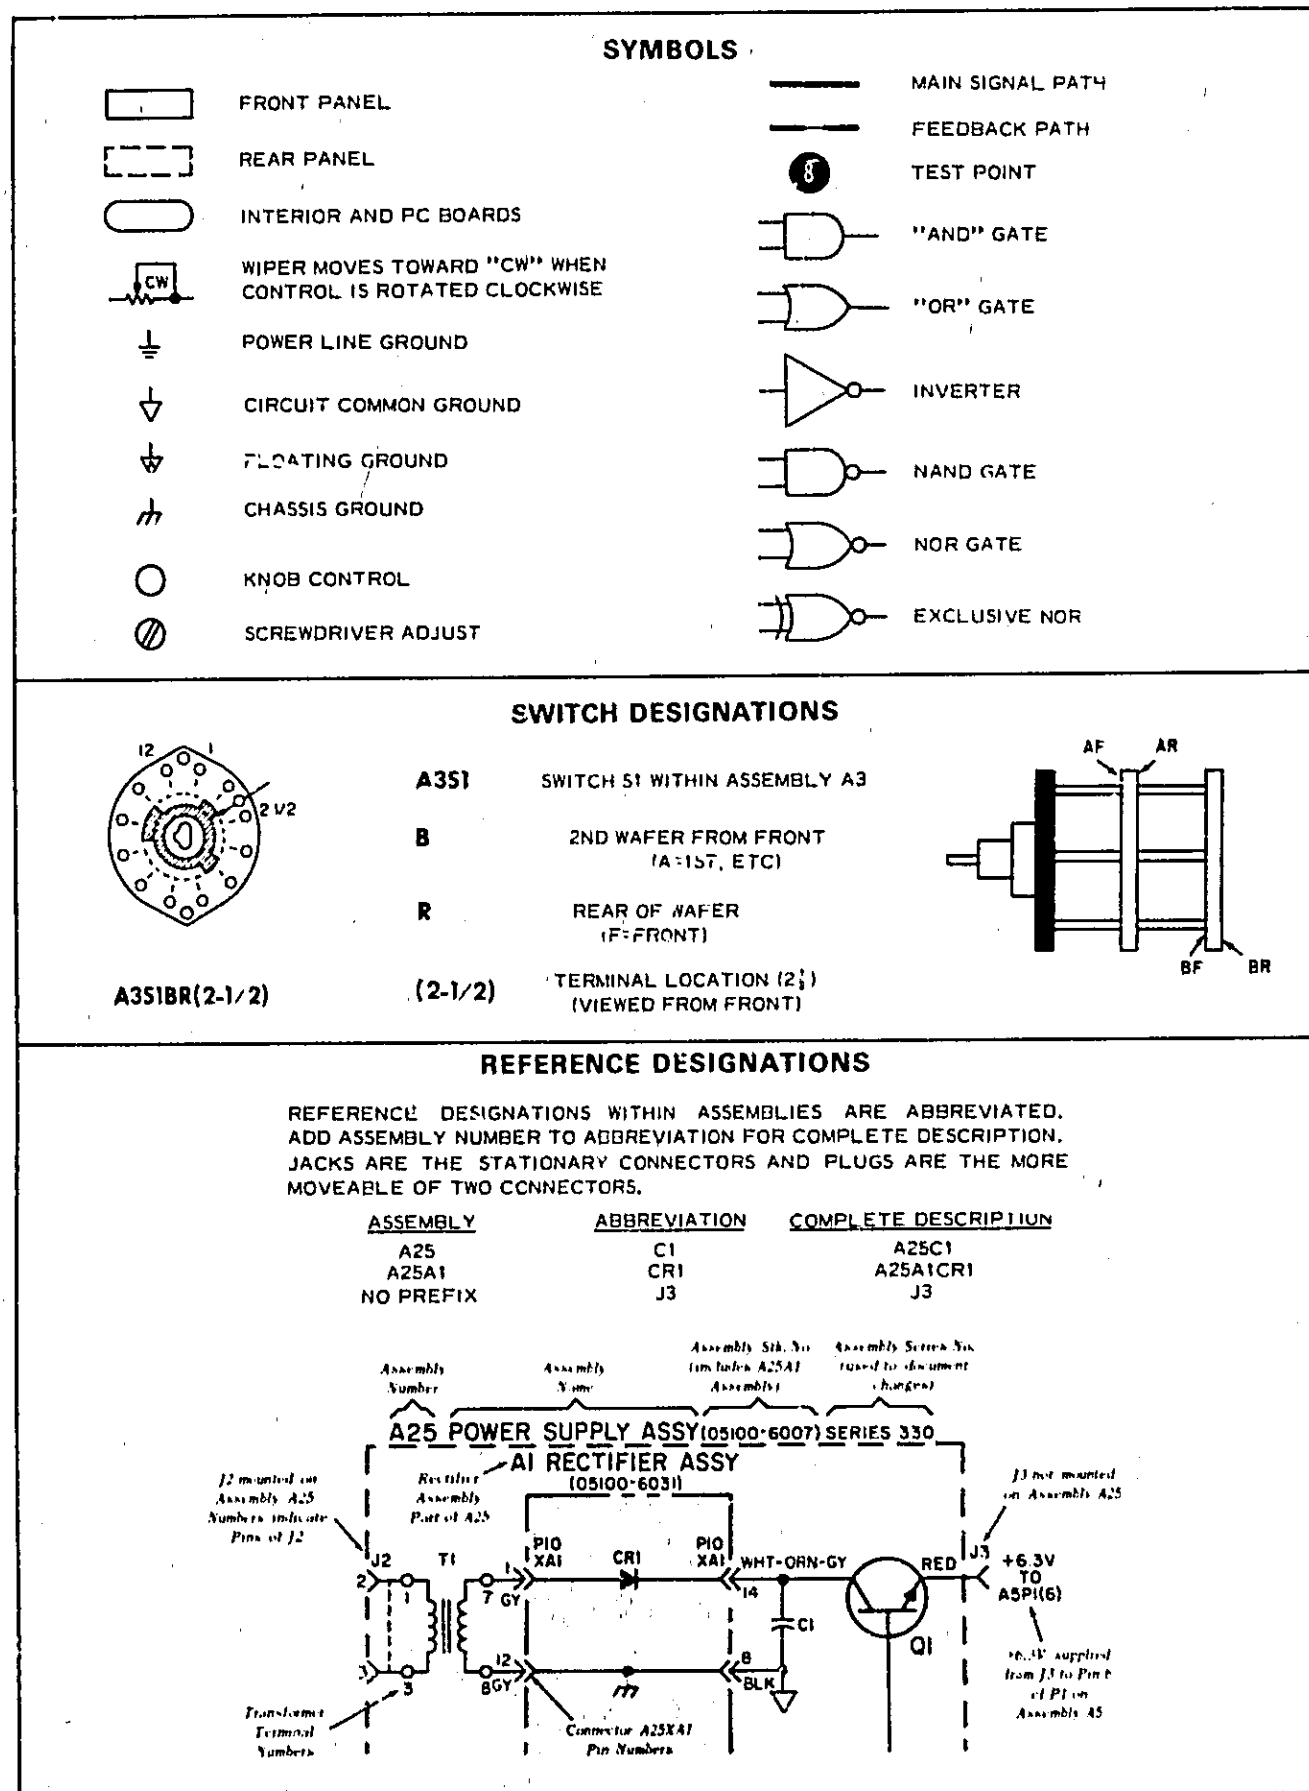

Figure 7-1. General Notes for Schematic Diagrams
- General Notes for Schematic Diagrams (Figure 7-1).